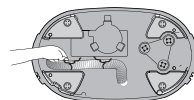

Fig. 2
- b Reroute the Drain Hose to the left side. Hook each Tie Wire between two holes on the base. Wrap the Tie Wires around the hose once, then twist at least 3 times (Fig. 2).